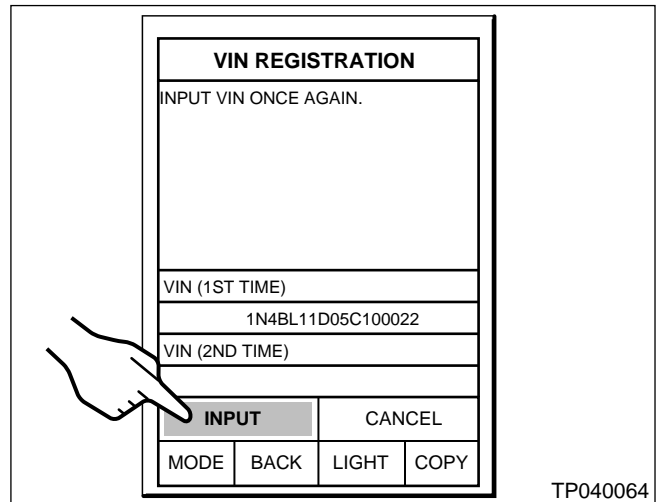

Figure 15
- h. Select **INPUT** on the "VIN Registration" screen and enter the entire VIN again. See Figure 15.